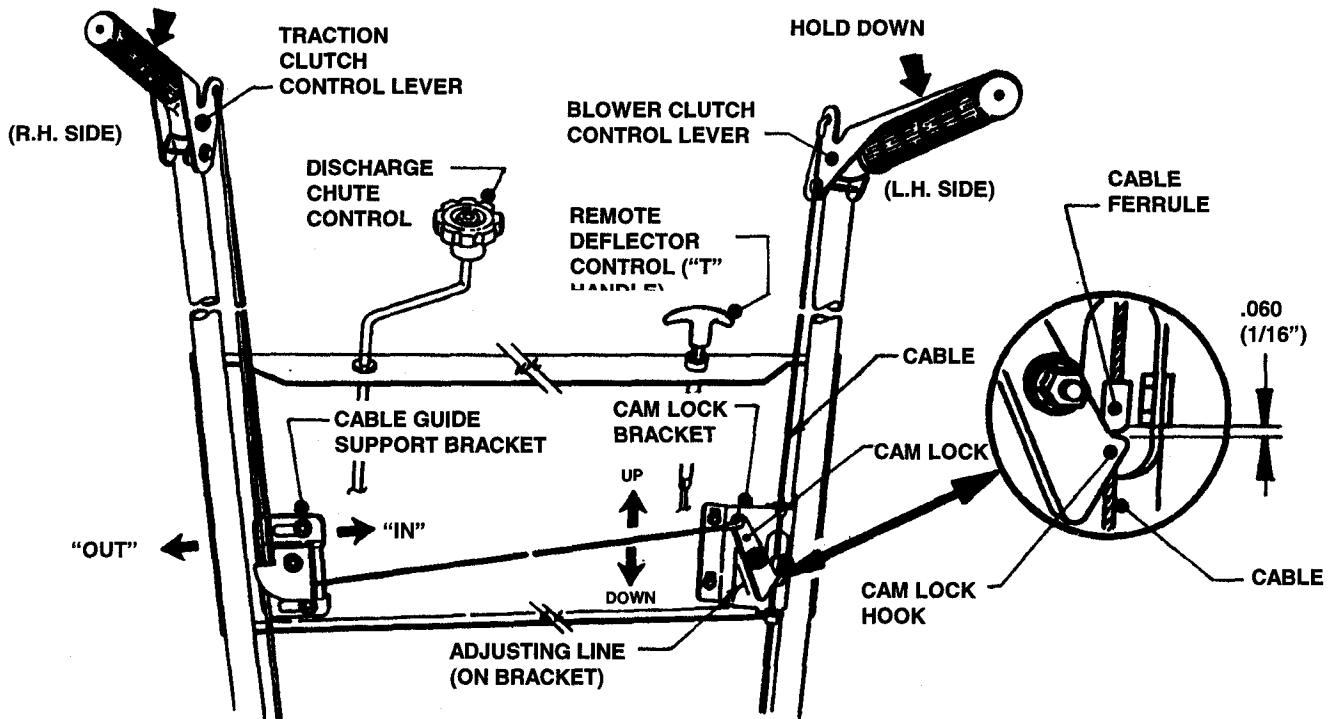

FIGURE 4.11
1. Hold the wheel drive control lever down against the handle. See Figure 4.11.
5. Check the position of the cable ferrule in relation to the cam lock. The ferrule must be located  $1/16"$  (.060) above the hook of the cam lock. To adjust, loosen the three nuts that secure the cam lock bracket. Slide bracket up or down until correct measurement is achieved. Retighten nuts securely. See Figure 4.11.